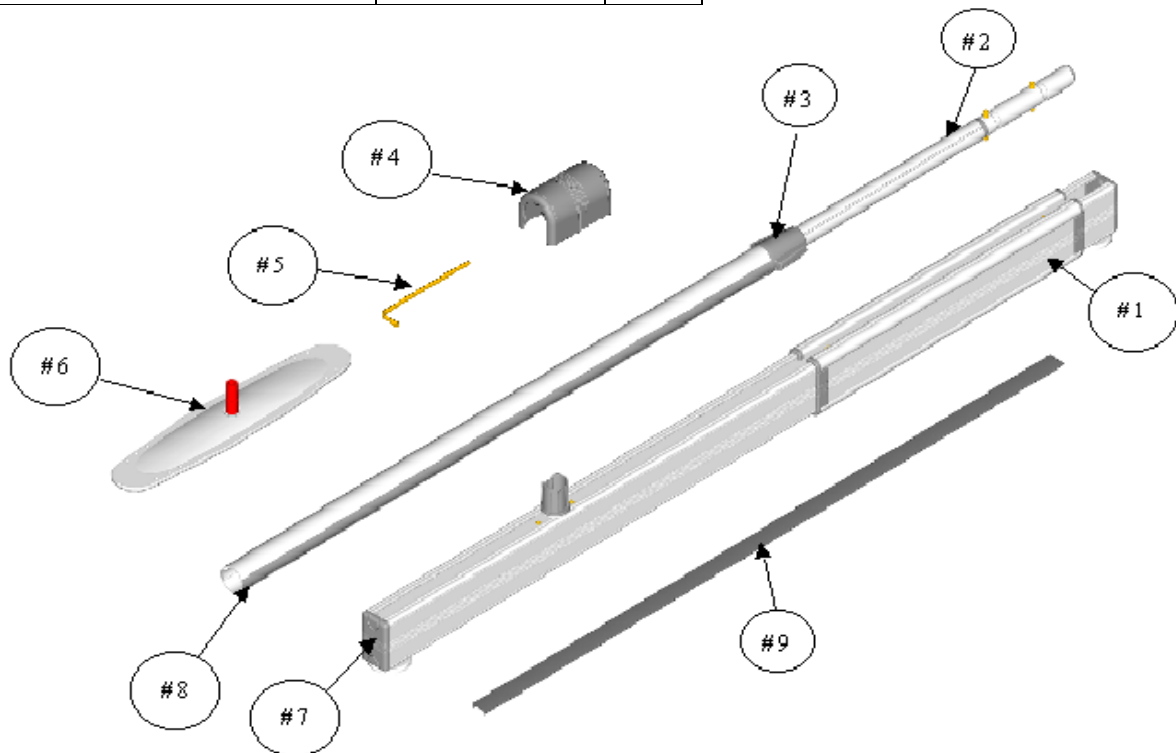
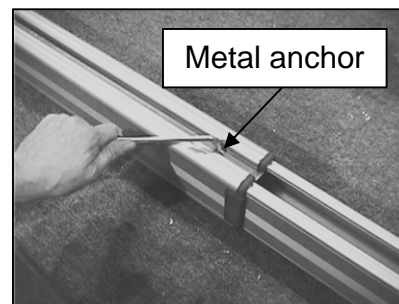
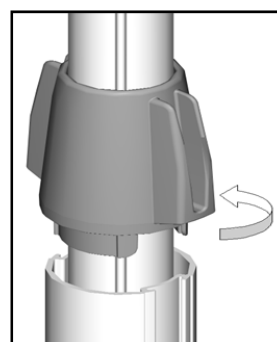

Figure 5
Figure 6
Figure 15
1. Take the bath base rail (see Figure 5 – item #1) out of the box and place it on its supports or "feet".
2. Using a 6 mm Allen key (see Figure 5 – item #5), loosen the screws that hold the metal anchor, loosen the screws to allow the rail to extend and retract freely to fit on your tub (see Figure 6).
- Take the bath post (see Figure 5 – item #2) and the top plate (see Figure 5 – item #6) out of the box.
14. Lift the blue locking handle out of the lower portion of the post (see Figure 5 - item #3). Using the blue piece as a handle, twist the post as follows (see Figure 15):